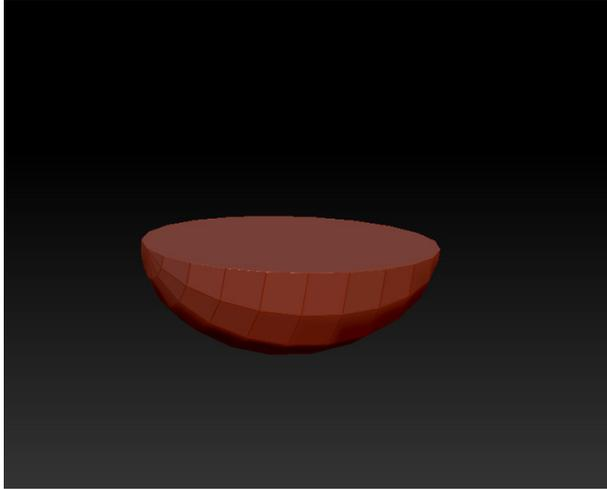

Figure 3-112 Shape of the sphere changed
4. In the **Initialize** subpalette of the **Tool** palette, set the value of the **X Size** slider to **66** and the **Coverage** slider to **180**. Figure 3-112 shows the changed shape of sphere.